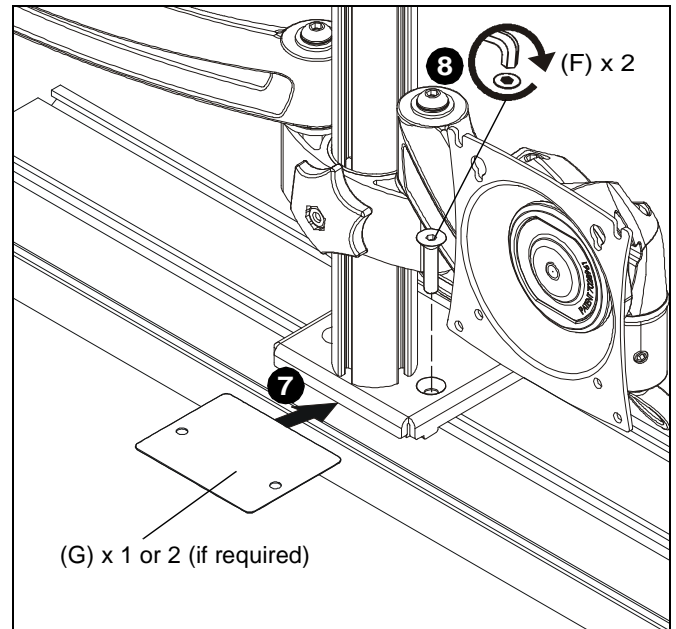

Figure 3
6. Remove two #10-32 x 7/8" flat head cap screws (F) holding mount assembly (A) to channel plate (E).
7. Slide one or two shims (G) in between mount assembly (A) and rail, lining up holes on shim(s) with holes on plate and rail. (See Figure 3)
8. Use two #10-32 x 7/8" flat head cap screws (F) to reinstall mount assembly (A) to channel plate (E). (See Figure 3)